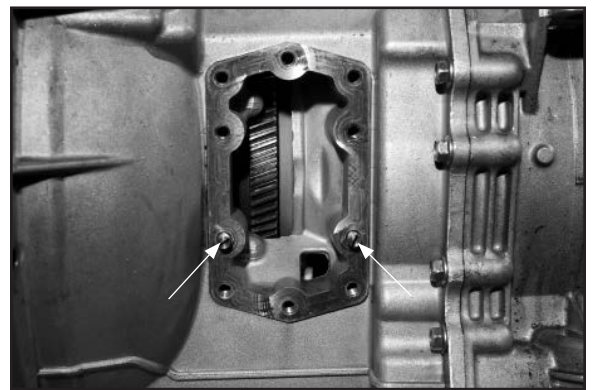

Figure 10
8. Using a screwdriver, install the dowel pins until they bottom out (**Fig. 10**) (Refer to page 16 for correct location and use).